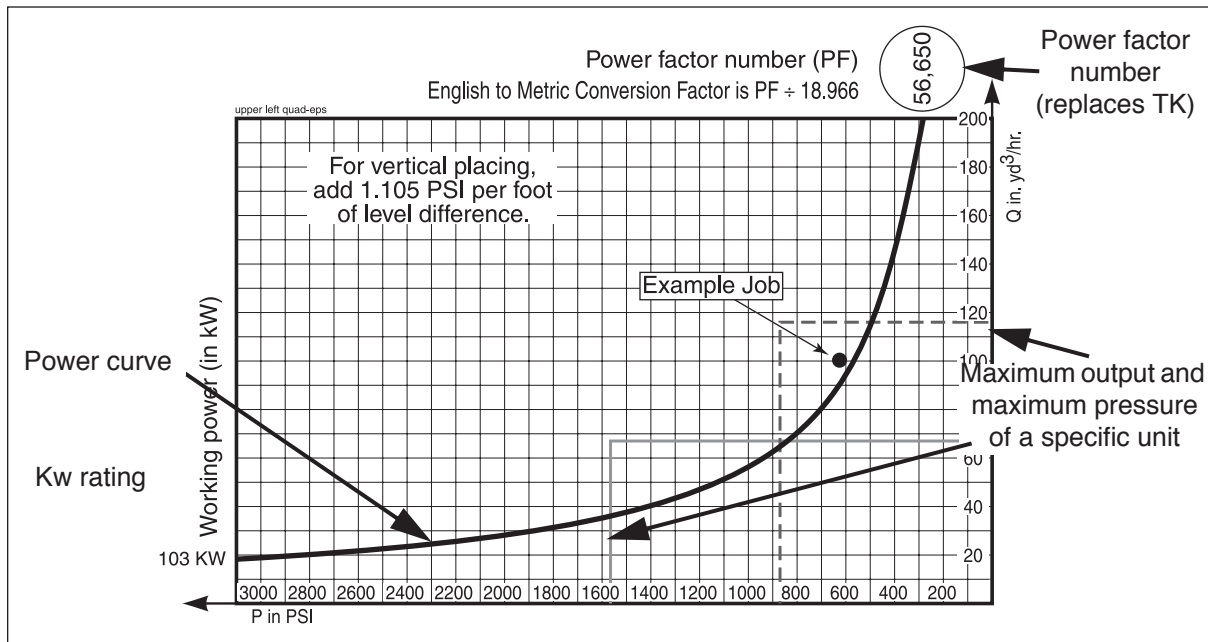

Figure 3
1. The **upper left quadrant** describes the power curve of a given hydraulic pump Kw rating and the maximum output and maximum pressure of a particular model of concrete pump (Figure 3).
Maximum pressure (abbreviated as max P) is determined by the size of the differential and material cylinders and the setting of the main relief valve. To be sure that the unit will handle the job, be careful to notice max P and max Q. Here is an example of why that is important: You contract to pump a job that requires only 20 yards per hour, but you calculate that you will need 2100 PSI pressure. The PF of this job is 42,000 (20 x 2100). The pump shown in Figure 3 has a TK of 72,600, so there is enough power available. However, the maximum pressure available from the pump is only 1570 PSI. This pump would not do the job.